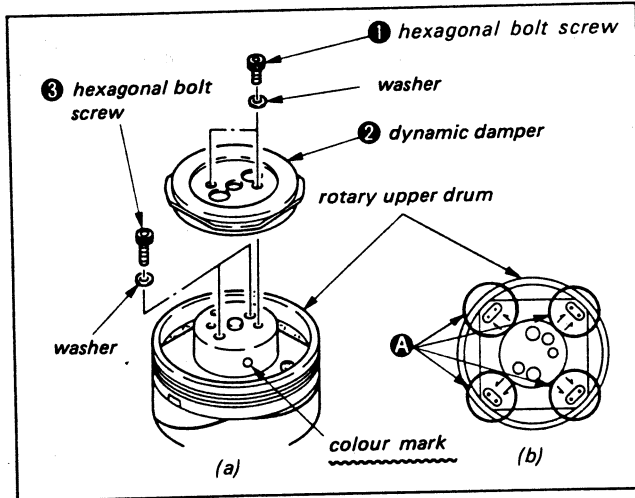

Fig. 3-42.
- There is a colour mark on the rotary upper drum, as shown in Fig. 3-42, so refer to the table below when replacing.
- 1) Remove the two hexagonal bolt screws ① and the dynamic damper ②. (Fig. 3-42)
- 2) Remove all 8 solders in section A and confirm that the board and the pins on the bottom can move freely, using tweezers or the like. (Fig. 3-42)
- 3) Remove the two hexagonal bolt screws ③. (Fig. 3-42)
- 6) Solder the pins in section A. (Fig. 3-42)
- 7) Mount the dynamic damper ② with the two screws ①. (Fig. 3-42)
- Be careful not to mix up the hexagonal bolt screw ① (2X2.7) and ③ (2X5)